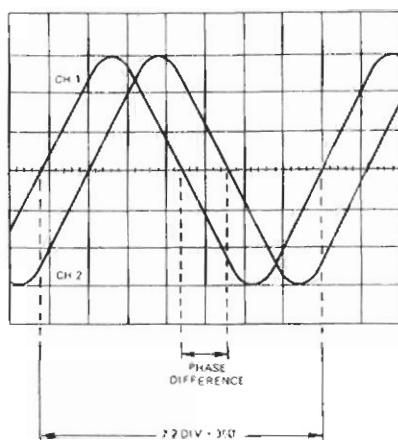

Figure 2-18. Dual-trace method of phase measurement
1. Set up the LBO-325 as described in 2-3-5 Dual-trace Operation, connecting one signal to the CH 1 or X IN connector (9) and the other to the CH 2 or Y IN connector (10).
2. Set the trigger SOURCE switch (28) to the channel with the least noise and most stable trace. Temporarily move the other channel's trace off the screen by means of its Vertical Position control.
3. Center the stable (trigger source) trace with its Vertical Position control, and adjust its amplitude to exactly 6 vertical division by means of its VOLTS/DIV switch (11) and VARIABLE control (12).
4. Use the LEVEL control (31) to ensure the trace crosses the central horizontal line at or near the beginning of the sweep. (See Figure 2-18.)
5. Use the A TIME/DIV switch (20), the Time VARIABLE control (22), and the Horizontal Position control (24) to display one cycle of trace over 7.2 divisions. When this is done, each major horizontal division represents 50°, and each minor division represents 10°.
7. The horizontal distance between corresponding points on the waveform is the phase difference. For example, in the Figure 2-18 illustration the phase difference is 6 minor divisions, or 60°. Use the Horizontal Position control (24) to align one of the mid-cycle zero crossings with a graticule calibration to facilitate this measurement.
8. If the phase difference is less than 50° (one major division), pull the PULL X10 MAG switch (24) and use the Horizontal Position control (24) (if needed) to position the measurement area back on screen. With 10X magnification, each major horizontal division is 5°, and each minor division is 1°.